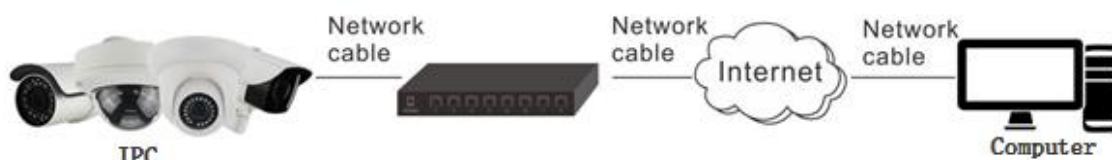

Figure 2-5
- **The router is connected to the IP camera as shown in Figure 2-5:**